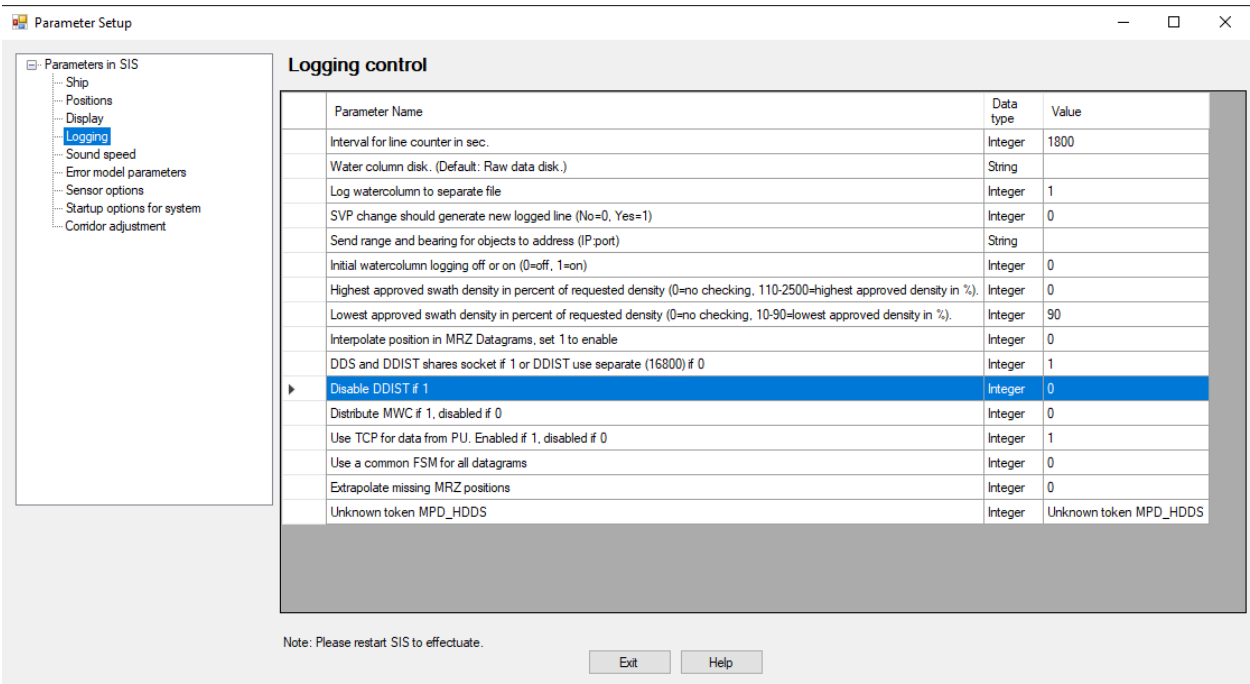

Fig. 2.20: The 'Disable DDIST if 1' entry under Tools in Parameter Setup/Logging.
- Under *Tools* in *Parameter Setup/Logging*, locate the *Disable DDIST if 1* entry (see Fig. 2.20).